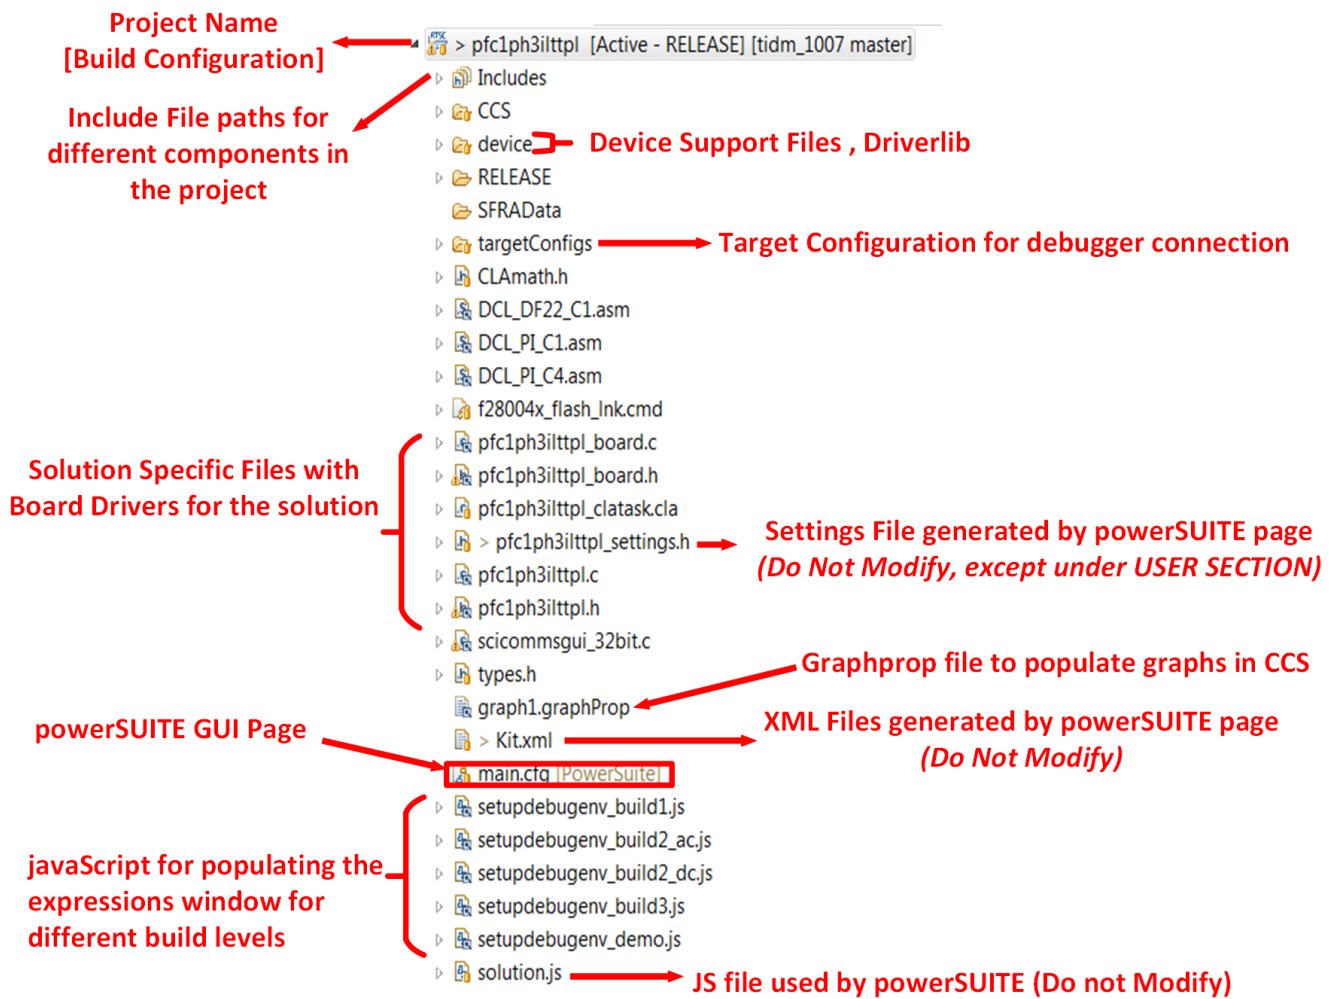

图 17. Project Explorer View of Solution Project
Once the project is imported, the project explorer appears inside CCS as shown in 图 17.
- In the *Project Explorer* make sure the correct target configuration file is set as Active under *targetconfigs* (图 17).